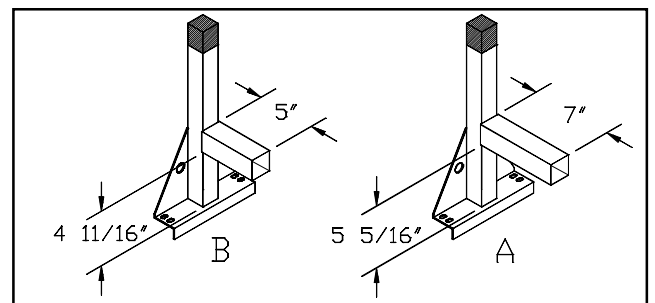

Figure 3. Center Stand Identification
***NOTE:** Models 216 and 2056 are used exclusively on Ford and Chevy GMT600/GMC Savana vans due to the upward bow in the center of the gutter. The front and rear Stands have 7" long sockets. The third (center) Stand can be identified by the 5" socket that is 5/8" lower (*Stand B* as shown in Figure 3.) for the Ford and GM.